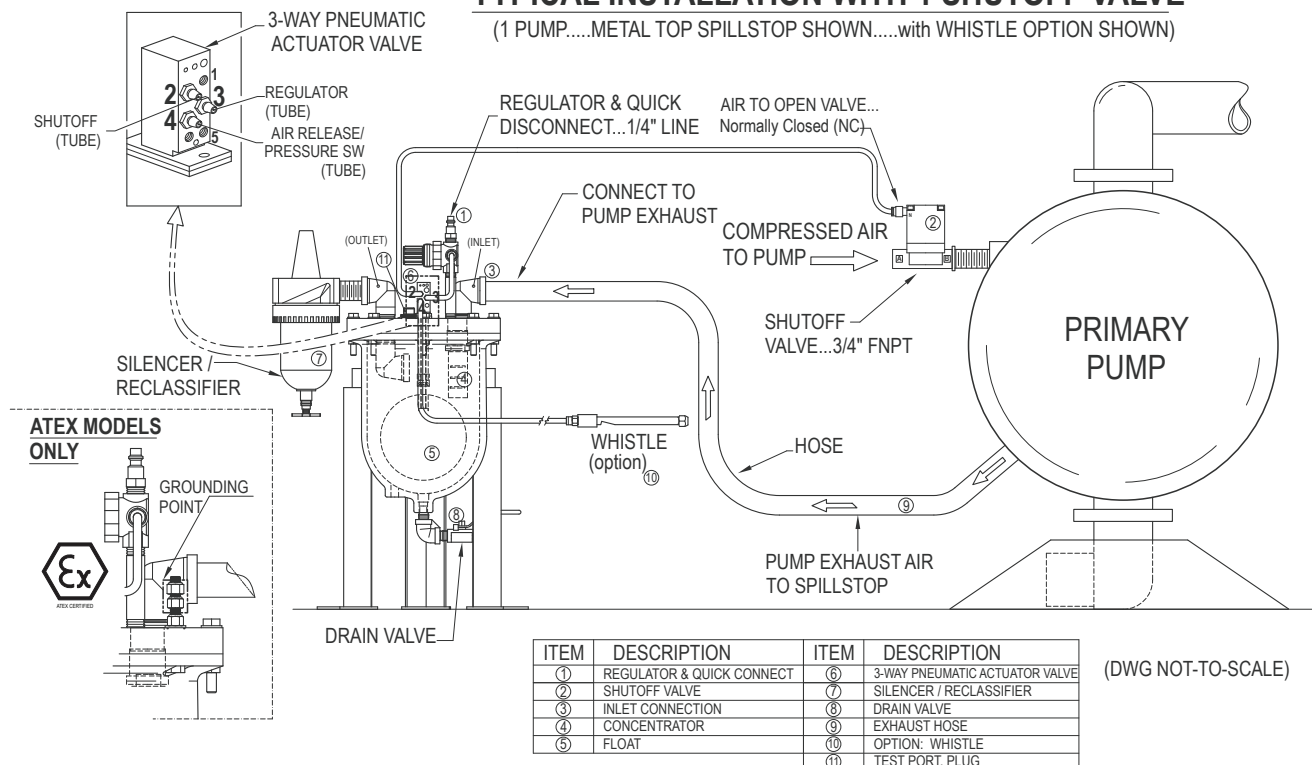

FIGURE 2
1. Install the shutoff valve ② directly to the air valve of the air operated diaphragm pump (Figure 1). The shutoff valve can be installed before or after any regulator or lubricator installed in the compressed air line. (See Figures 2 and 3 for additional configurations using multiple pump shutoff valves.)
2. Install an exhaust hose ③ with a pressure rating at least as high as the system air pressure from the pump's **air discharge port** (exhaust) to the **SPILLSTOP inlet connection port** ③. Rigid piping may be used as an alternative; however, a minimum 6" (15.2 cm) length of hose should be used for the connection from the pipe to the SPILLSTOP inlet connection port.
High inlet pressure: If the possibility exists of siphoning liquid through the pump due to high pump inlet pressure, then a second shutoff valve ② should be installed in the exhaust line to the SPILLSTOP (FIGURE 2). The shutoff valve should be installed at the inlet port of the SPILLSTOP. This valve will shut off automatically when the shutoff valve to the pump's compressed air source is closed.
3. Connect an air line with a 1/4" (6.4 mm) female quick connect to the 1/4" (6.4 mm) male quick connect supplied on the SPILLSTOP regulator ①. The quick connect can be removed for hard plumbing.
4. To start the pump, adjust the SPILLSTOP regulator ① to a minimum of 40 psi (2.7 bar). If the SPILLSTOP is installed with optional whistle, switch and/or a second shutoff valve for a backup pump, increase pressure to a minimum of 60 psi (4.1 bar) to start the pump.
Installed on port 4 of the SPILLSTOP's 3-way pneumatic actuator valve ⑥, the Pneumatic-to-Electric Switch ⑩ is used to power a warning light or other electrical device when an air operated diaphragm pump has a diaphragm failure and the SPILLSTOP shuts down the pump (Figure 2). When SPILLSTOP triggers a pump shutdown, the device connected to the switch will be powered on. When the SPILLSTOP is put back into operation after a pump shutdown, the device will be powered off.
1. The switch ⑩ has three blade-type electrical contact points:
2. Attach the air tube to port 4 of the 3-way pneumatic actuator valve ⑥ and connect to the switch's barb connection.
- a. Connect an air line to the SPILLSTOP regulator ①.
- b. Adjust the SPILLSTOP regulator ① to a minimum of 40 psi (2.7 bar).
- c. Push the float ⑤ up to activate the SPILLSTOP. Air should start flowing through the tube connected to port 4 of the 3-way pneumatic actuator valve ⑥ and the switch should power on the electrical device.